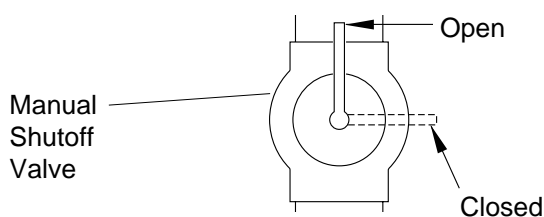

Figure 15 - Manual Shutoff Valve
1. Close manual shutoff valve (see Figure 15).
3. Check all joints from propane supply tank to manual shutoff valve (see Figure 15). Apply mixture of liquid soap and water to gas joints. Bubbles forming show a leak.
1. Open manual shutoff valve (see Figure 15).